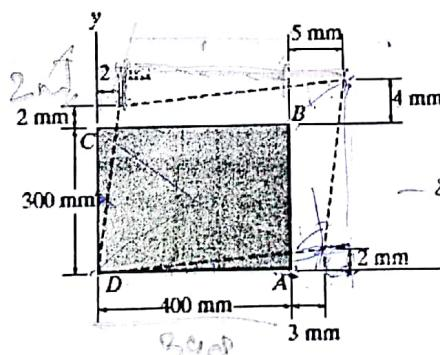

Fig. 4
4. The piece of plastic shown in Fig. 4 is originally rectangular. Determine the shear strain at corners A, B, C and D if the plastic distorts as shown by the dashed lines. Also determine the average normal strain that occurs along the diagonals AC and DB. [ $(\gamma_B)_{xy} = 11.6(10^{-3})$  rad;  $(\gamma_A)_{xy} = -11.6(10^{-3})$  rad;  $(\gamma_C)_{xy} = -11.6(10^{-3})$  rad;  $(\gamma_D)_{xy} = 11.6(10^{-3})$  rad;  $\epsilon_{AC} = 1.60(10^{-3}) \text{ mm/mm}$ ;  $\epsilon_{DB} = 12.8(10^{-3}) \text{ mm/mm}$ ]